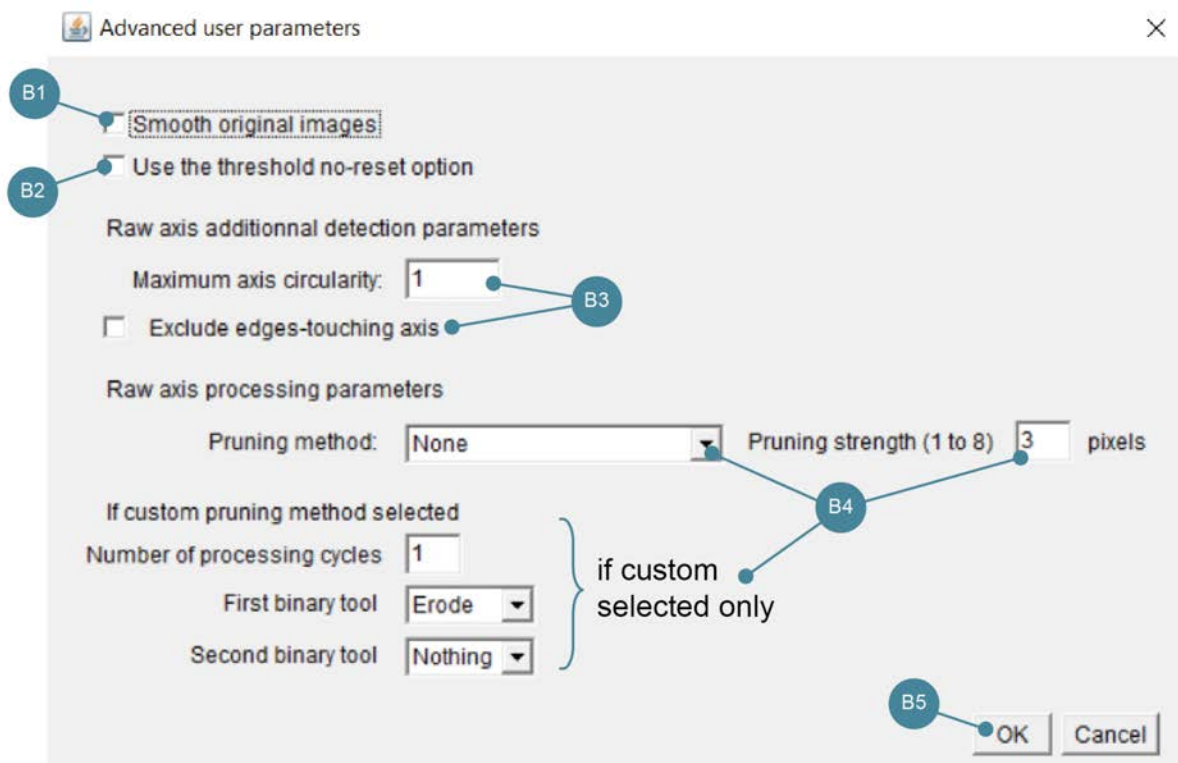

Figure 7.16. The Advanced user parameters menu
**OPTIONAL STEP B.** For precise foci and axis detection, advanced user options are available. These options are especially useful for images with high levels of noise or super-resolution images. If you check the "Use advanced user option" checkbox, the "Advanced user parameters" window will be displayed during STEP13 (see figure 7.16).